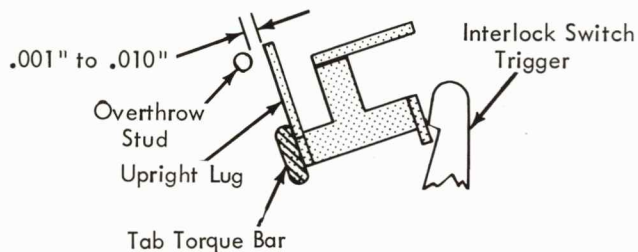

FIGURE 170. Torque Bar Overthrow Stud (Late)
NOTE: The carrier should be tapped lightly to the left before checking this adjustment. It should also be checked with the carrier in the center of its travel. Be sure that the overthrow stud (Fig. 170) does not interfere with this adjustment.
12. Torque Bar Overthrow Stud (Fig. 170) - With the tab cam on its high point, form the upright lug on the LH end of the torque bar for a clearance of .001" - .010" between this lug and the overthrow stud.